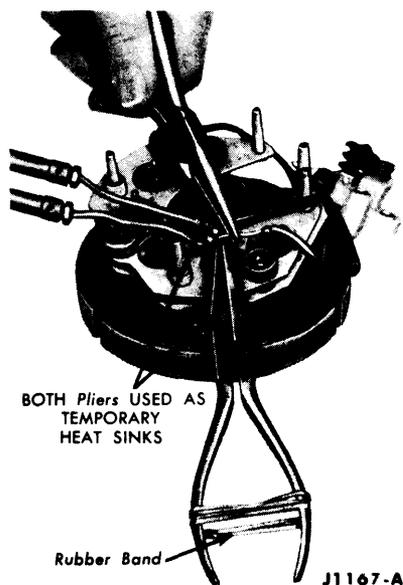
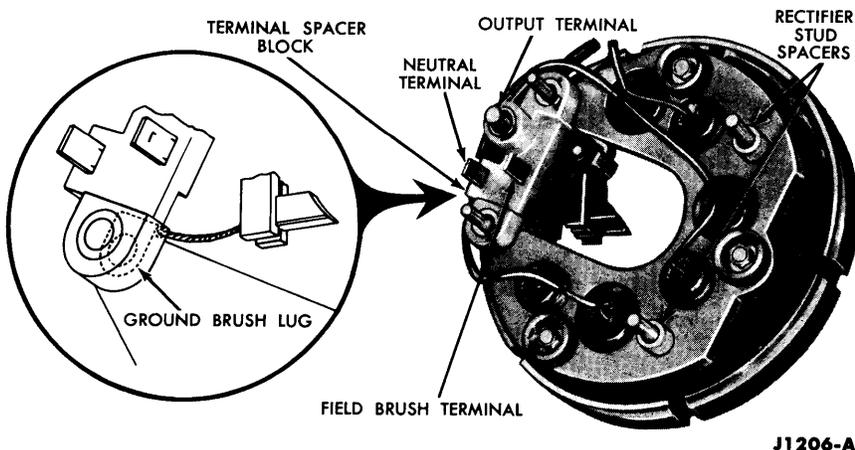

FIG. 44—Soldering Diode Leads
FIG. 49—Stator, Heat Sink and Terminal Spacer Block Assembly
8. If either diode plate is being replaced, carefully unsolder the leads from the diodes (Fig. 44). Use only a 100 watt soldering iron. Leave the
6. If a new diode plate is being installed, mount the two plates together so that they are insulated from each other (insulating spacer between the plates and cupped insulator under the screw head, as shown in Fig. 49). Solder the wire leads to the diodes as shown in Fig. 44, in order to avoid excessive heat to the diode. Use only a 100 watt iron.
7. Insert the new field brush terminal blade into the slot in the terminal spacer block with the brush pig-tail extending toward the brush holder pivots (Fig. 49).
then position the brushes in the brush holders (Fig. 49).
9. Solder the neutral wire to the neutral terminal. Position the terminal spacer block assembly on the rectifier plate mounting studs, with the ground brush lug over the mounting stud farthest from the output terminal as shown in Fig. 49.
10. Place the spacers on the rectifier mounting studs farthest from the terminal block (Fig. 49).